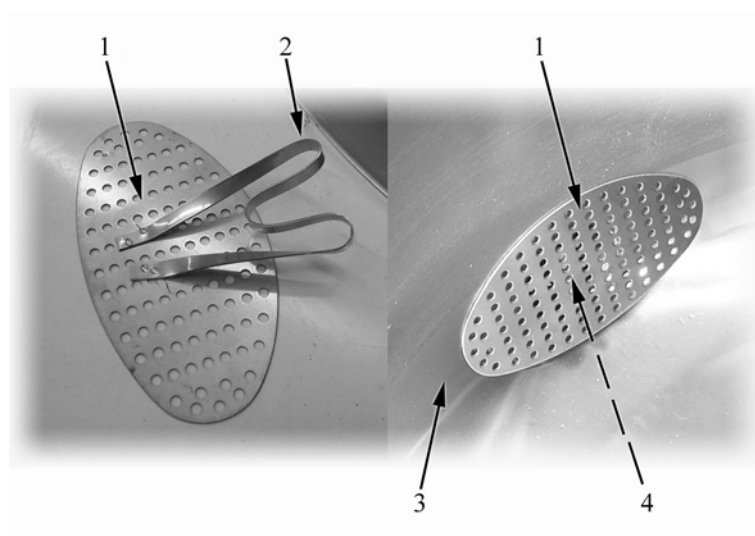

Fig. 2
Lift and expand the tongues (item 2 in Fig. 2) of the filter so they are slightly wider than drain hole (item 4 in Fig. 2) and perpendicular to filter. Fix the filter by inserting the fixing tongues into the drain hole.